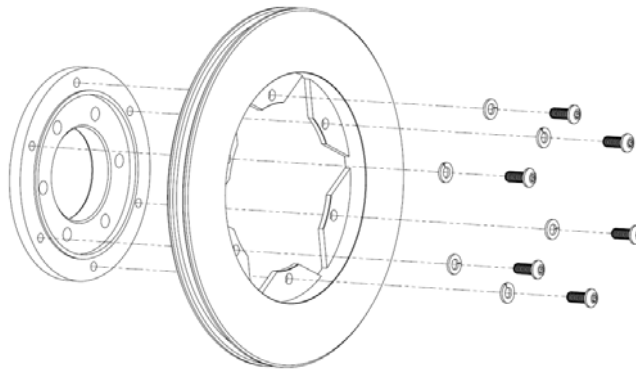

Figure 6. Use thread locker when assembling the 6 bolts and washers to each rotor sub-assembly.
- 8) Assemble the rotors to the rotor adapter (i.e. rotor "hat") using the supplied 5/16 x 3/4" button head screws and the 5/16 split lock washers. Each rotor needs 6 screws and washers as shown in **Figure 6**. Apply a few drops of thread locker on to the threads of the screw during assembly. **Tighten the bolts to 180 in lbs.**